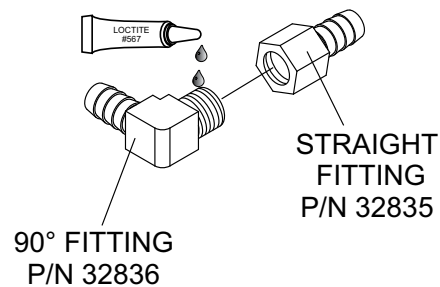

Figure 11. Applying Loctite® 567™ (90° Fitting)
7. Apply Loctite® 567™ to the male threads (Figure 11) on the 90° fitting.